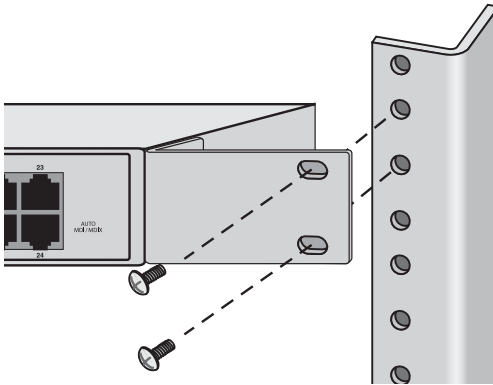

Figure 11 Installing the Switch to the Rack
3. Secure the switch to the rack using two screws (not provided) for each side, as shown in Figure 11.